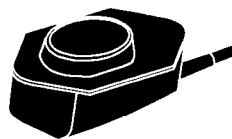

Figure 5-10 Pediatric Paddle (Bottom)
- 4 The pediatric paddle is now exposed and ready for use (see Figure 5-10).